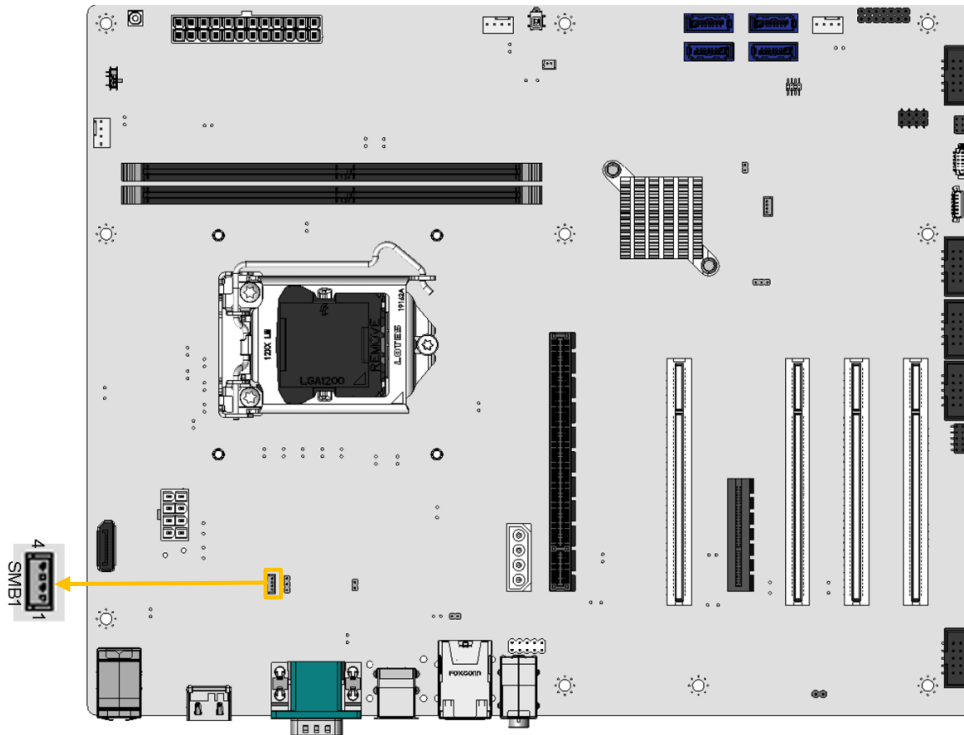

Figure 3-15: SMBus Connector Location
- CN Location:** See **Figure 3-15**